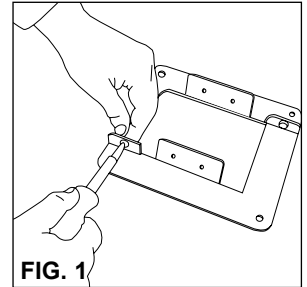

FIG. 1
1. Assemble wall plates by using two (2) #10-32 x 5/16" screws and #10-32 nuts (included-see Fig. 1). Using the assembled plate as a template, determine best installation position for BOTH sides of wall that will allow proper alignment of the pathway through the wall. Openings when properly aligned, should allow the pathway to be inserted through the wall on a level path, perpendicular to wall surface. Adjust plate as required to align pathway openings and to meet the attachment requirements listed above. Once properly positioned, mark the location of the four wall fasteners (if necessary). Remove plate from wall surface and drill holes for fasteners (if necessary).